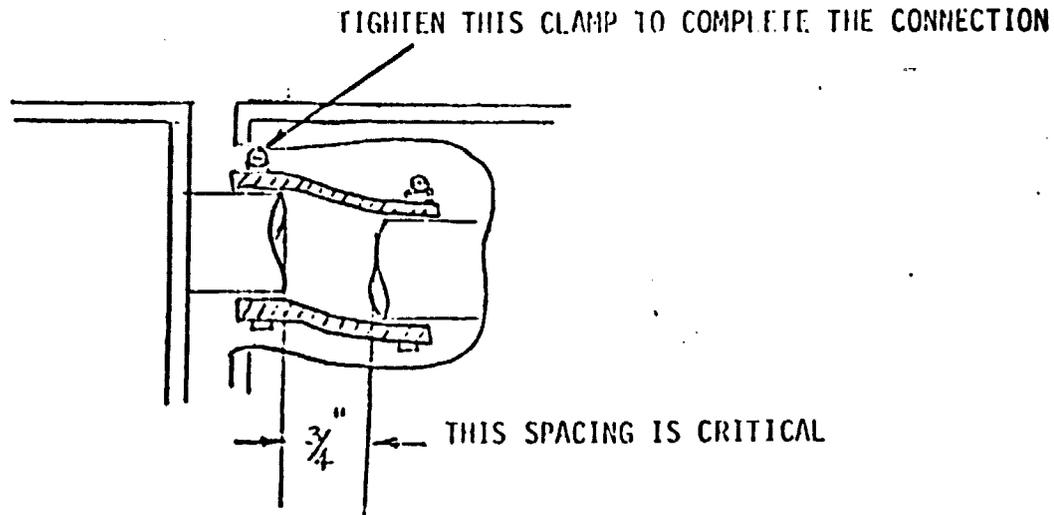

FIGURE 10: COMPLETED CONNECTION BETWEEN COLLECTORS AND THE CORRECT SPACING BETWEEN MALE AND FEMALE HEADERS
9. Slide the two collectors together to a point at which the two headers are approximately $\frac{3}{4}$ " from each other inside the coupling as shown in Figure 10.